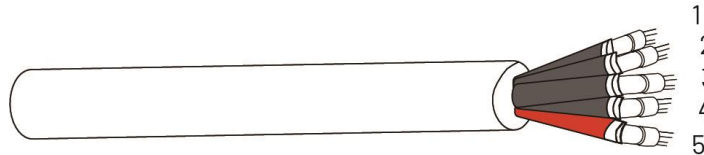

Figure 3-20
- 2) Crimp the five cables as figure 3-20: